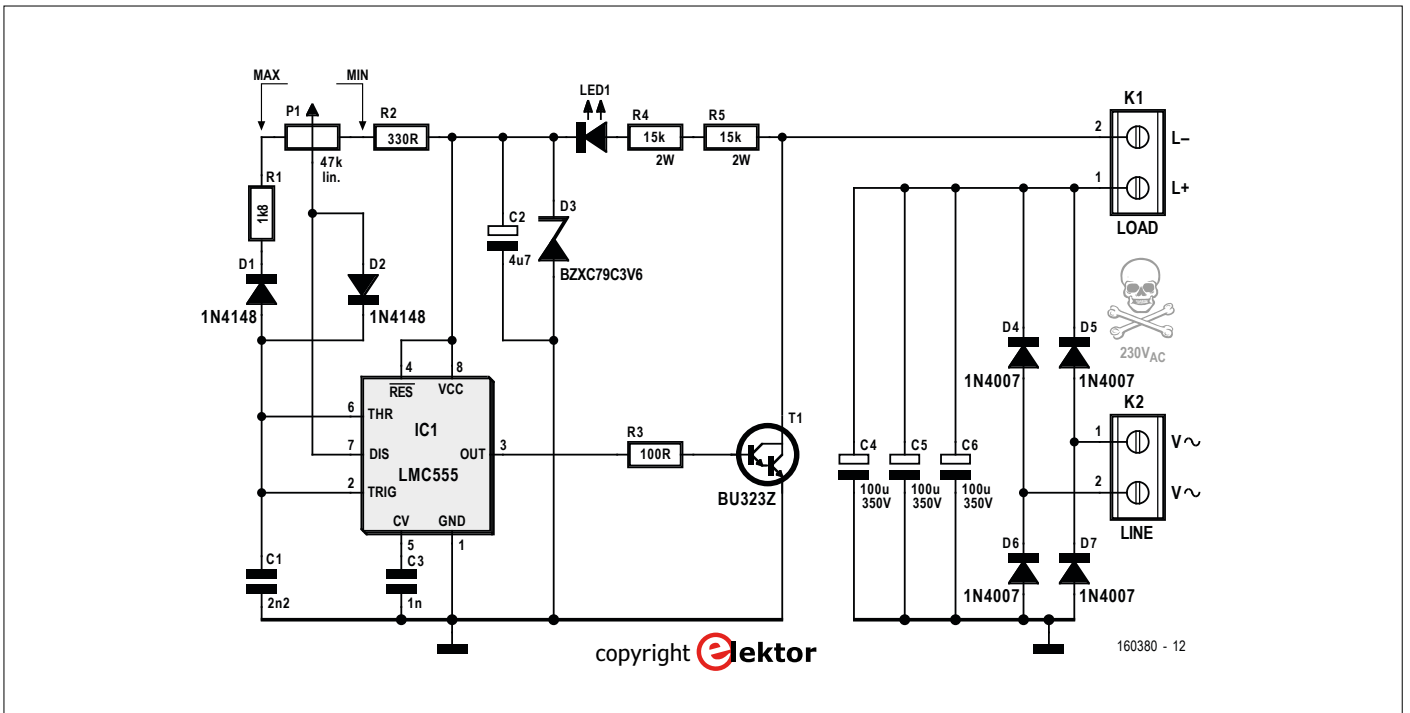

Figure 3. This dimmer circuit is dangerous and may kill you. Do not look at it too long.
Figure 3 shows the 230-VAC version of the dimmer. The most noticeable change is the addition of the rectifier (D4-D7) and the supply filter made up with C4, C5 and C6. We also added a skull & bones symbol to make clear that potentially lethal things are going on here. The filter capacitor is made with three
- (Figure 3) Assume $U_{LED} = 2.5 V$, $I_{LED} = 0.05 A$, $U_T = 3 V$, $U_{SUP} = 325 V$. If we limit $n \times U_{LED}$ to 80% of U_{SUP} , then $n = 104$ and $R = 1,378 \Omega$. The nearest standard value would be $1.5 k\Omega$. Its power rating should be better than $3.75 W$. The required resistor can be realized by connecting two $2 W$, $3 k\Omega$ resistors in parallel. With